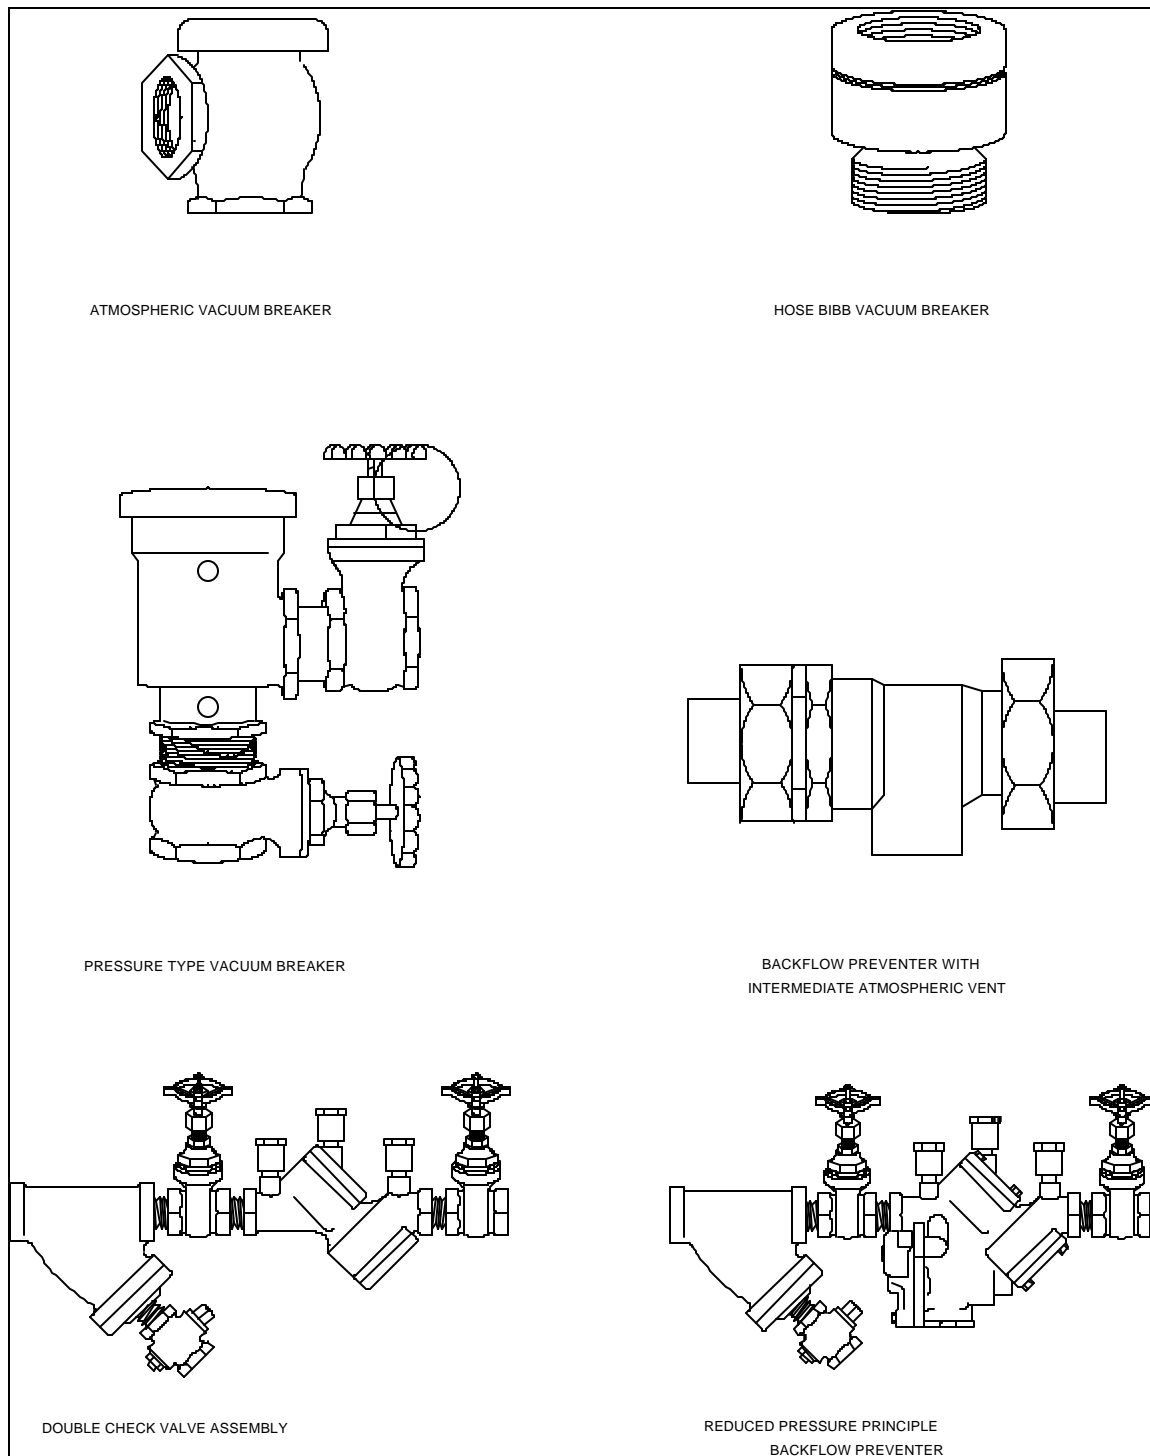

Figure 12-6. Backflow preventers
d. Backflow preventers. Backflow preventers are devices used to prevent the contamination of the domestic (potable) water system. Backflow preventers can be classified into four basic types, with the proper application of each type dependent upon the piping arrangement and the degree of hazard involved. The basic types of backflow preventers are illustrated on figure 12-6.